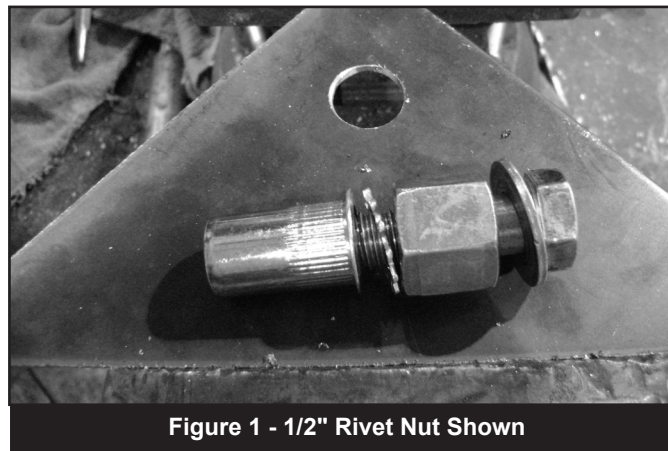

Figure 1 - 1/2" Rivet Nut Shown
34. For a 3/8" rivet nut, place the provided 3/8" SAE flat washer on the 3/8" x 1-1/2" bolt, followed by 7/16" hex nut and then a 3/8" serrated washer. Figure 1 Thread this tool assembly into the rivet nut.
35. For a 1/2" rivet nut, place the provided 1/2" SAE washer on a 1/2" x 2" bolt followed by a 9/16" high nut and 1/2" serrated edge lock washer. Thread this tool assembly into the rivet nut as shown. Figure 1